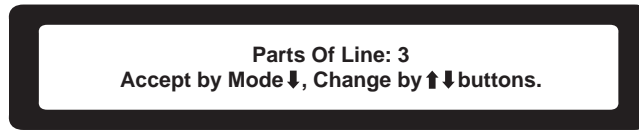

Figure 23. Parts of Line Screen
- After accepting the correct load chart, the PARTS OF LINE screen (figure 23) will appear. At this point there are no available options.